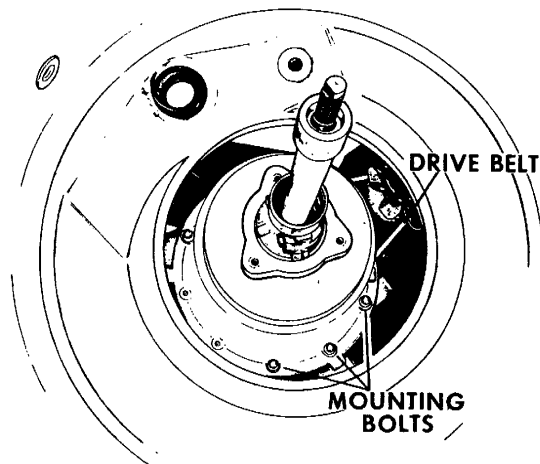

Figure 21 - Transmission Mounting
1. Remove the six bolts; use a 3/8" socket with at least a 6" extension, see Figure 21.